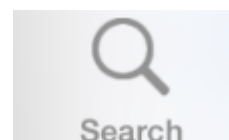

Figure 3.2.1.2
Step 3: Type in 'Citrus Lite' and click on the 'Search' button (with the blue background) as shown in figure 3.2.1.3.